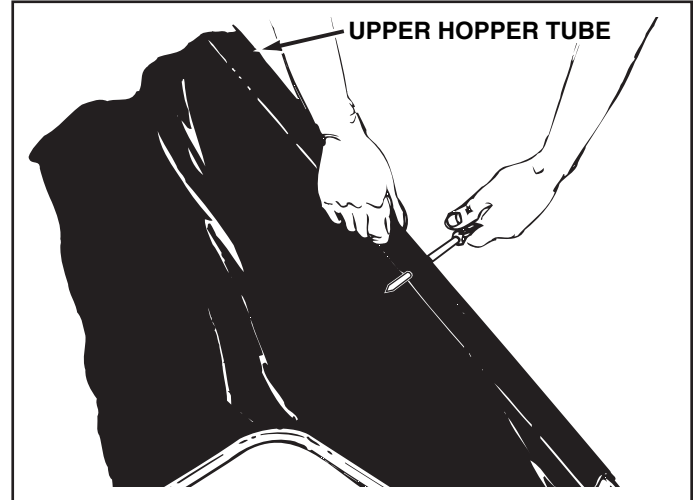

FIGURE 17
- If the hole in the side of the upper hopper tubes is covered over by the bag, locate the hole by touch. It is approximately midway along the side of the bag. Pierce holes through the stitched bag flaps where the holes in both hopper tubes are located. See figure 17.